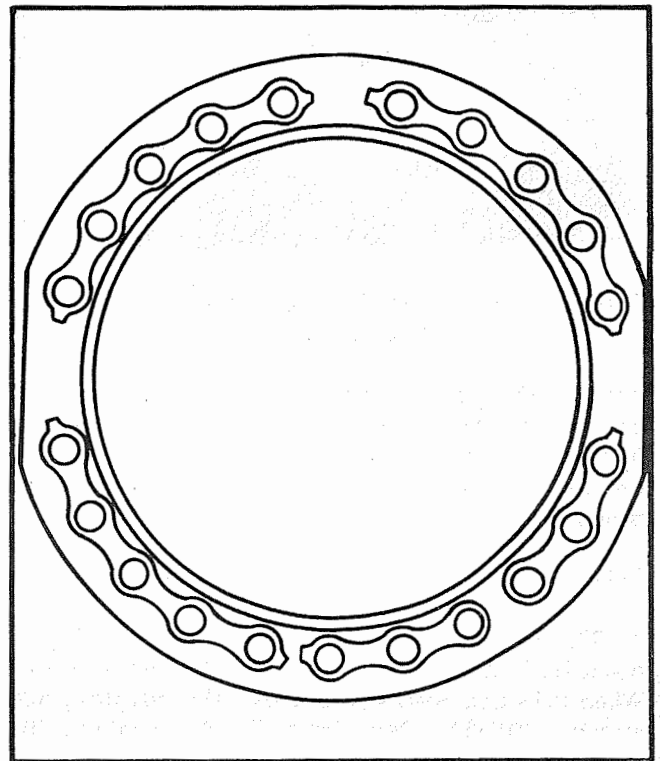

Figure 7-77. Optional Method of Installing Lock Plates
f. An optional method of installing the lock plates, to entirely eliminate the use of lock wire, is accomplished by cutting two five hole lock plates into two three hole lock plates and installing them as shown in figure 7-77.